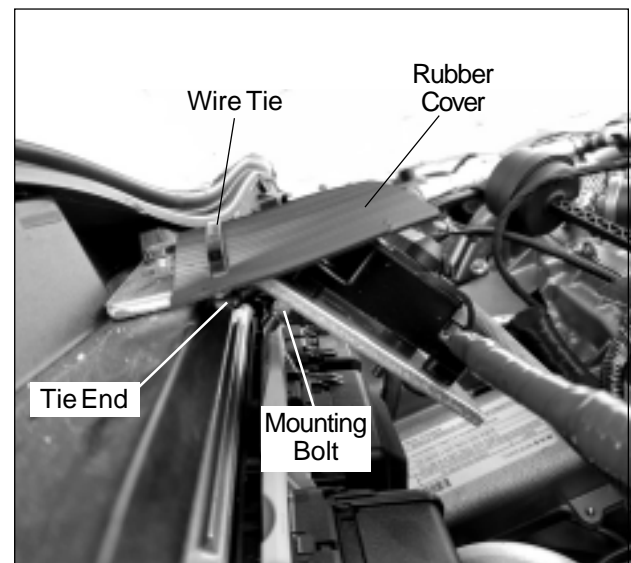

Figure 5 — Wire Tie End Position
5. Install a plastic wire tie through the holes in the cover to clamp the cover to the bracket (refer to Figure 5). Start the wire tie from the bottom of the left side of the cover so the head of the wire tie is under the cover.